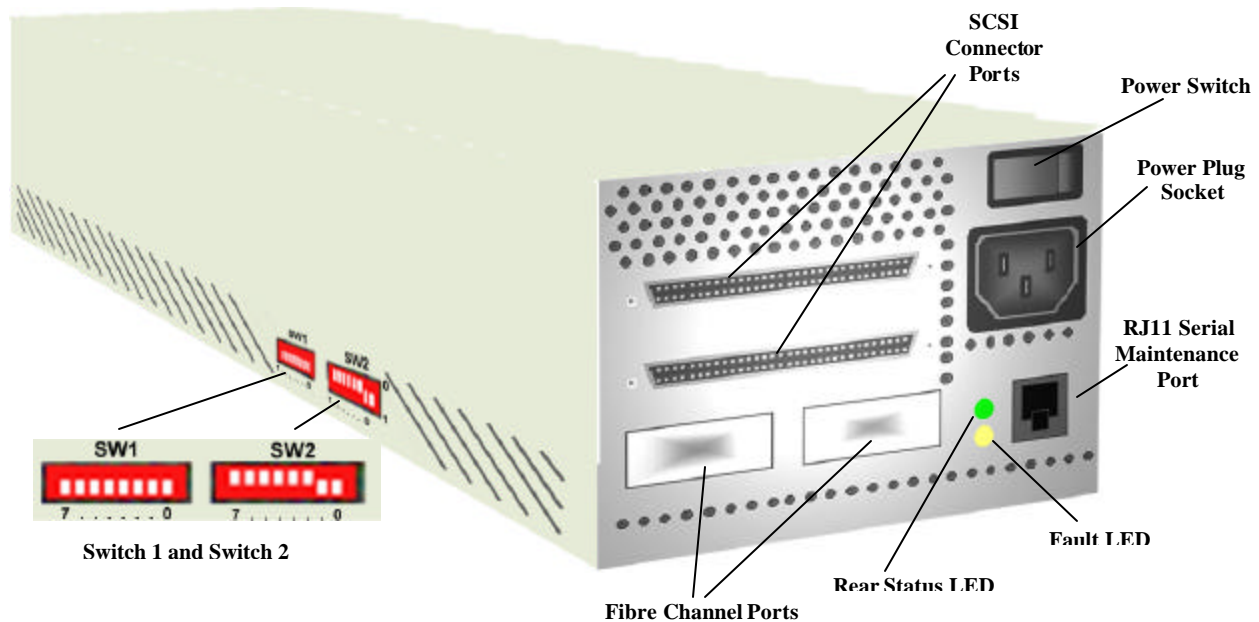

Figure 2-4. SCSI-FC Router Rear Panel
(See Figure 2-4, *SCSI-FC Router Rear Panel*, for power switch location.)
1. If conditions continue then toggle the power switch. (See Figure 2-4 for power switch location.)